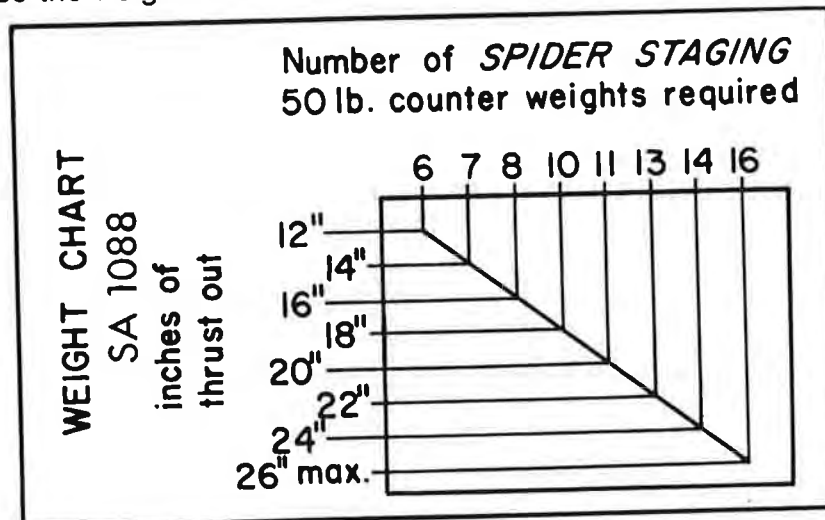

Figure 48
2. With the beam in place, obtain the proper number of 50 pound counterweights for the inches of thrust-out from the counterweight chart. (See Fig. 48) The first two counterweights should be threaded onto the bracket so they support the end of the beam. The rest of the weights can be threaded onto the bracket so they are up off the deck. When all the weights are installed, replace the nut and bolt on the end of the bracket so the weight cannot accidentally slip off.